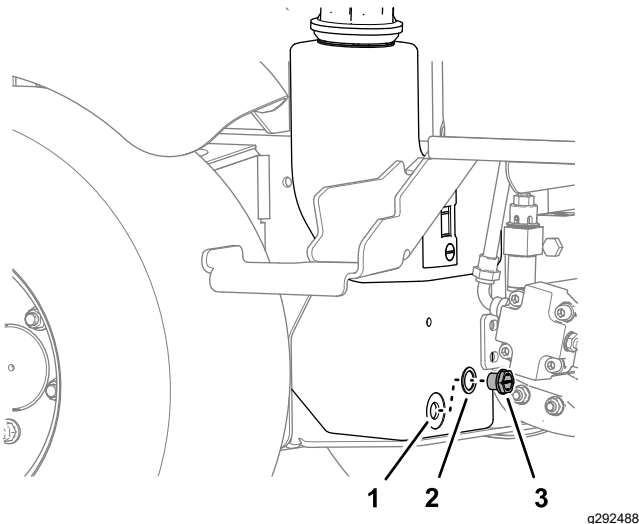

Figure 88
3. Align a drain pan under the hydraulic tank, remove the tank drain plug, and fully drain the hydraulic fluid (Figure 88).